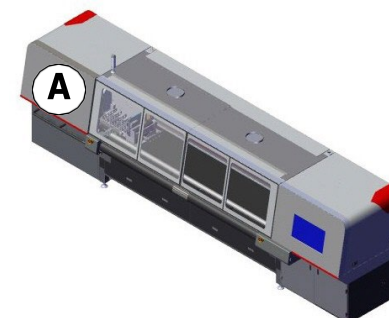

Figure 6-22 Printer Front View
2. Open carriage access door, Figure 6-22 location (A).